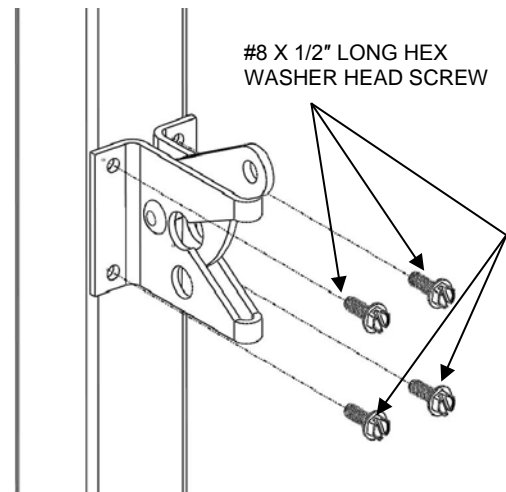

FIG. 7.20
7.8.8. Use 1/4" nut driver to secure latch using screws. (FIG. 7.20).